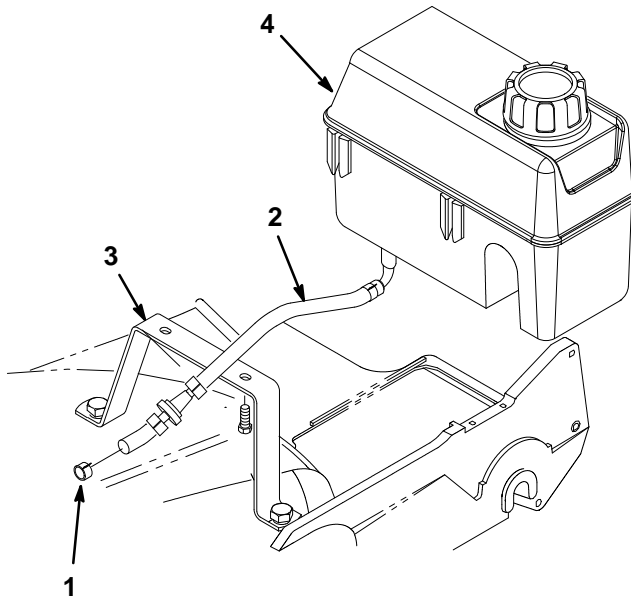

Figure 2
1. Disconnect fuel line from engine (Fig. 2).
2. Remove gas tank from tank bracket (Fig. 2). Carefully set tank aside.